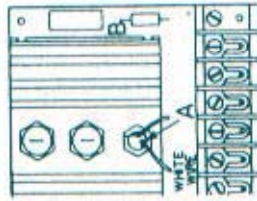

FIGURE 1
5. The SCR assembly can be checked by momentarily connecting a jumper between the gate of the SCR (Point A) and the capacitor side lead (Point B) of the R20 resistor (See Fig. 1). If the ammeter deflects, the SCR is operational. (Since this will cause the SCR to be wide open, the jumper can only be connected momentarily or a fuse may be blown).